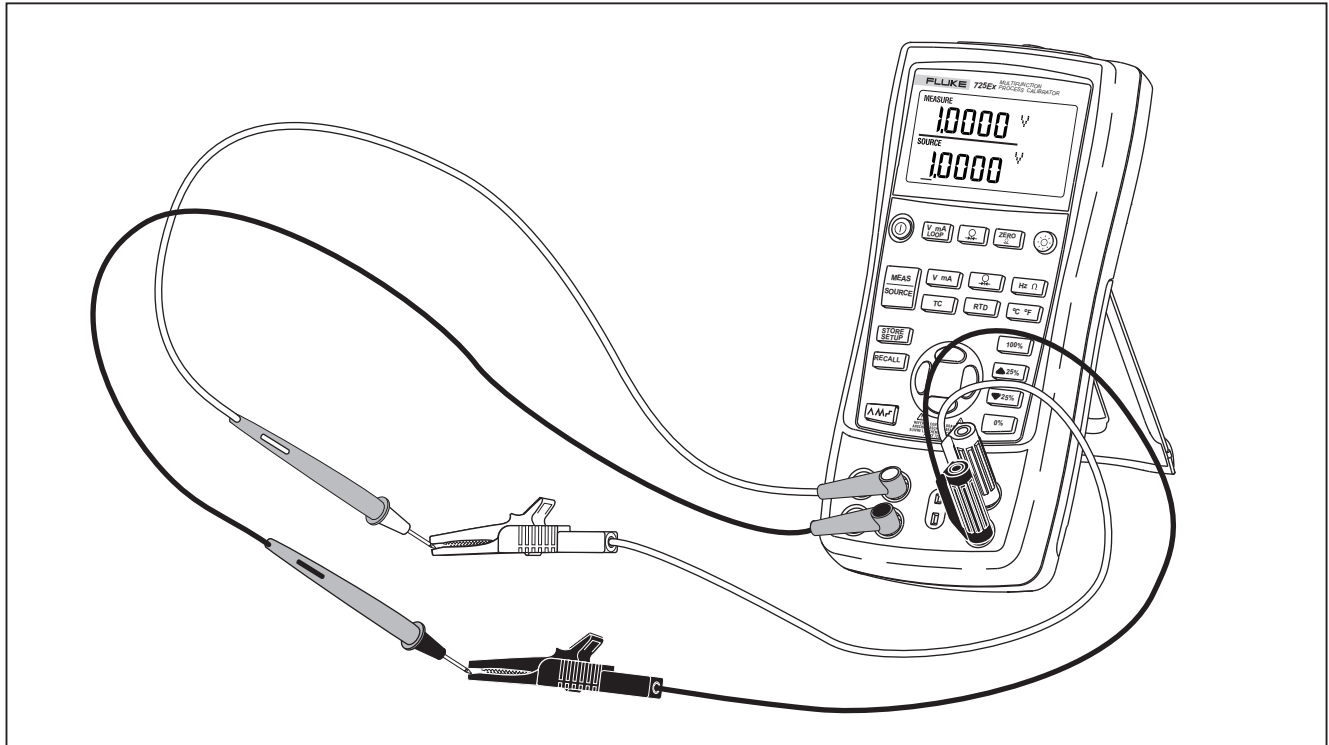

Figure 5. Voltage-to-Voltage Test
1. Connect the Calibrator's voltage output to its voltage input as shown in Figure 5.